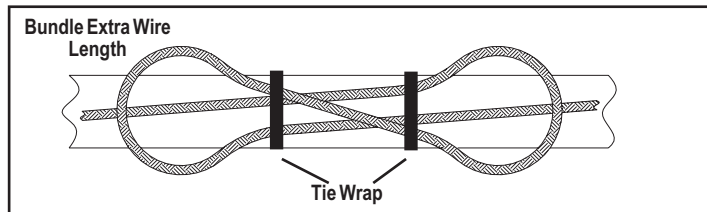

FIGURE 3 - BUNDLING EXTRA WIRE LENGTH
5. Where the harness length is more than needed, reroute the harness, or tie extra harness length as shown in Figure 3.